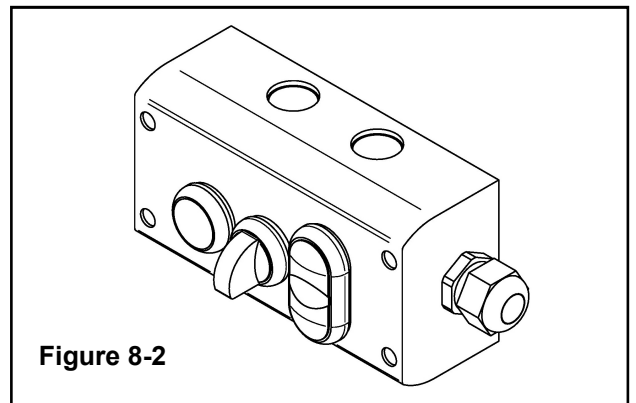

Figure 8-2
- Depress Blue reset button once (**Figure 8-2**)
- The main On/Off switch "ON" (I) (**Figure 8-2**)